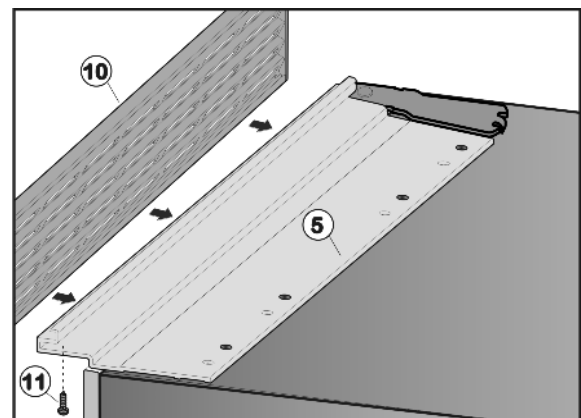

Fig. 33
- ▶ Position ventilation grille *Fig. 33 (10)* over the installation contour *Fig. 33 (5)* and align it such that the holes in ventilation grille and installation contour are above each other.
- ▶ Screw ventilation grille *Fig. 33 (10)* to installation contour *Fig. 33 (5)* from below using three screws *Fig. 33 (11)*.